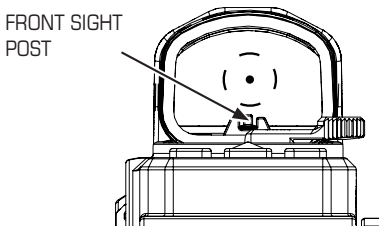

Figure 3.7-1 Iron Sights (Rear View)
- Step 3.)** While maintaining the alignment of the Iron Sights, as described above, aim so that the top of the center pin is aimed at the target (see Figure 3.7-1).